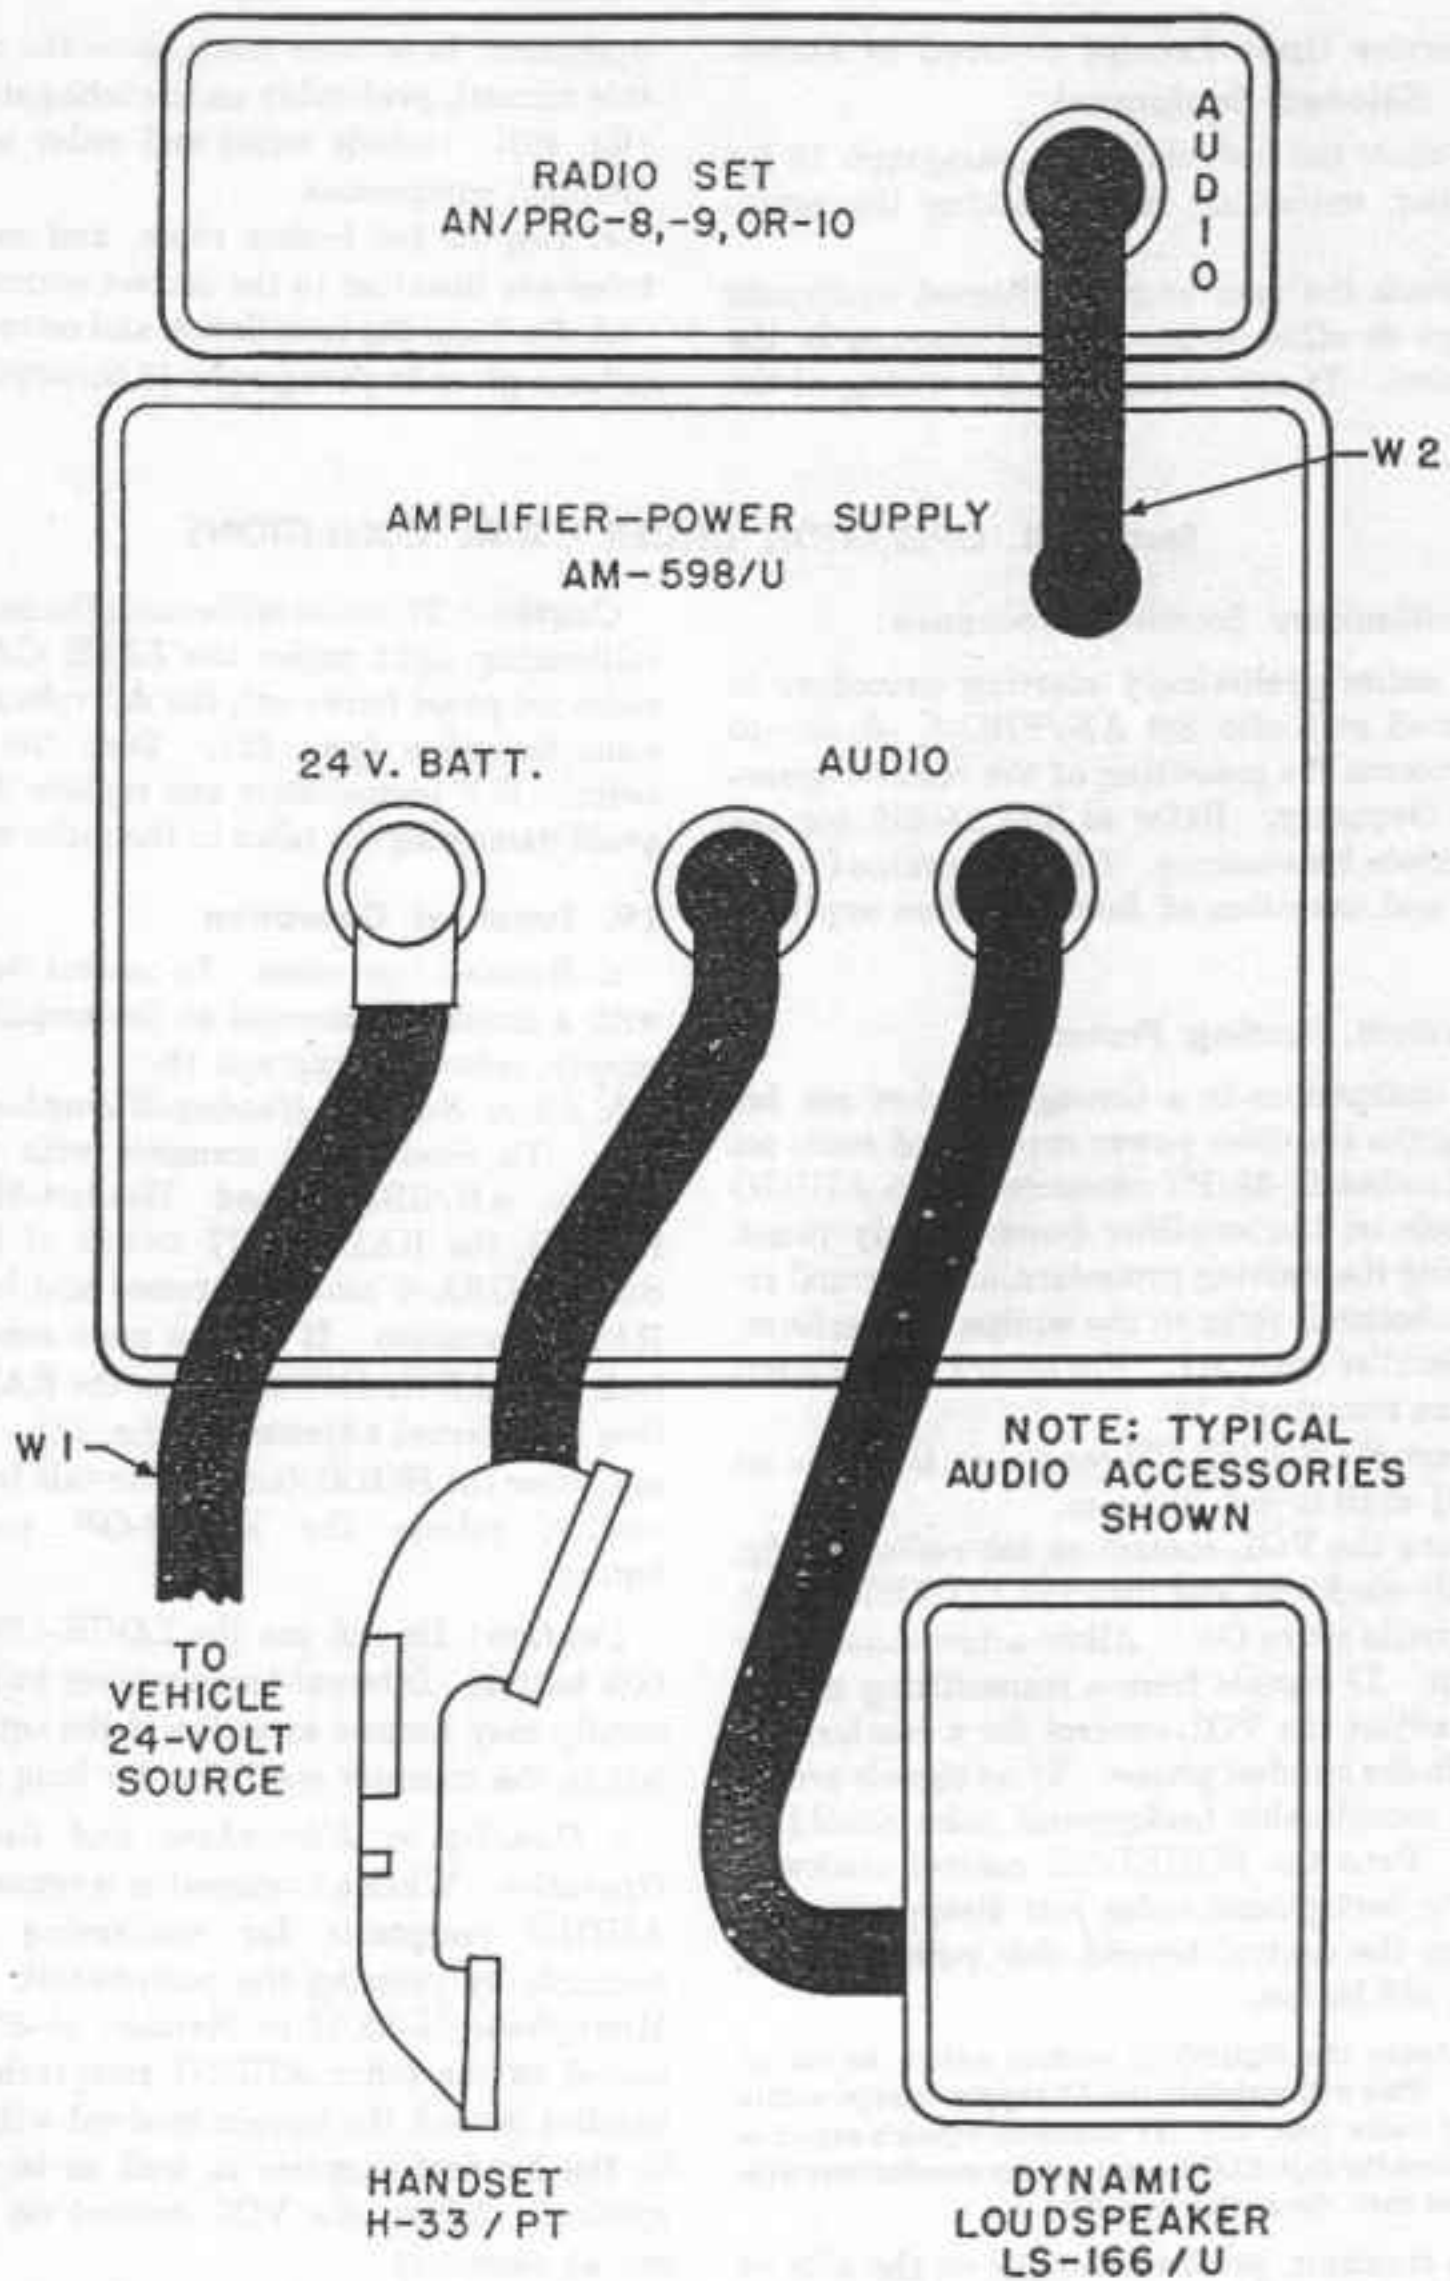

Figure 17. Accessory connections to amplifier-power supply AM-598/U.
14. Battery and Audio Accessory Connections (fig. 17)
b. Audio Accessory Connections. The chest sets, headsets, and headset-microphone sets provided in the installation units must be assembled and made ready for use. The remaining audio accessories are shipped assembled. The specific use of the audio accessories depends, in part, on vehicular conditions and modes of operation. Probable dispositions are indicated in (1) through (4) below. (See pars. 17 through 20 for the operating modes possible at the amplifier power supply AUDIO receptacles.)